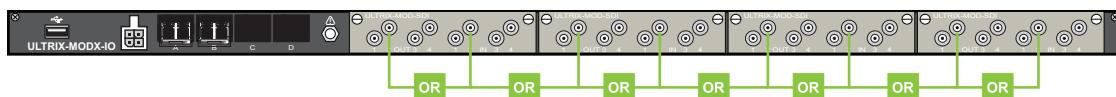

Figure 33 Example of UltriProc 6Gbps or 12Gbps Mapping on a Single ULTRIX-MODX-IO Blade
**Figure 33** illustrates the connections allocated for UltriProc on the ULTRIX-MODX-IO blade (with four ULTRIX-MOD-SDI) for data rates up to 6Gbps and 12Gbps.